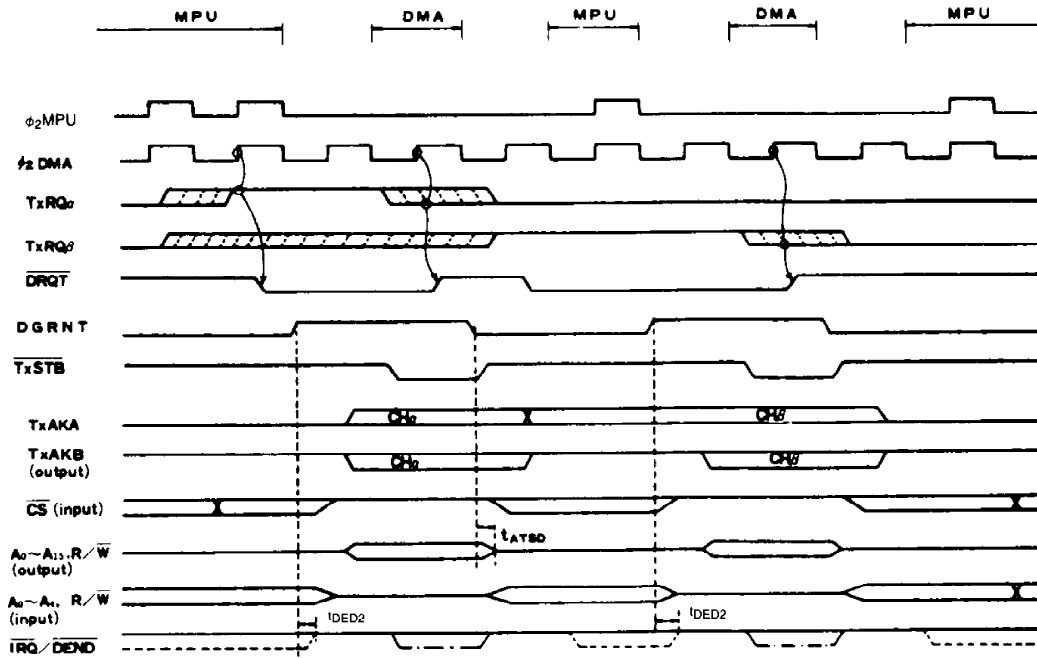
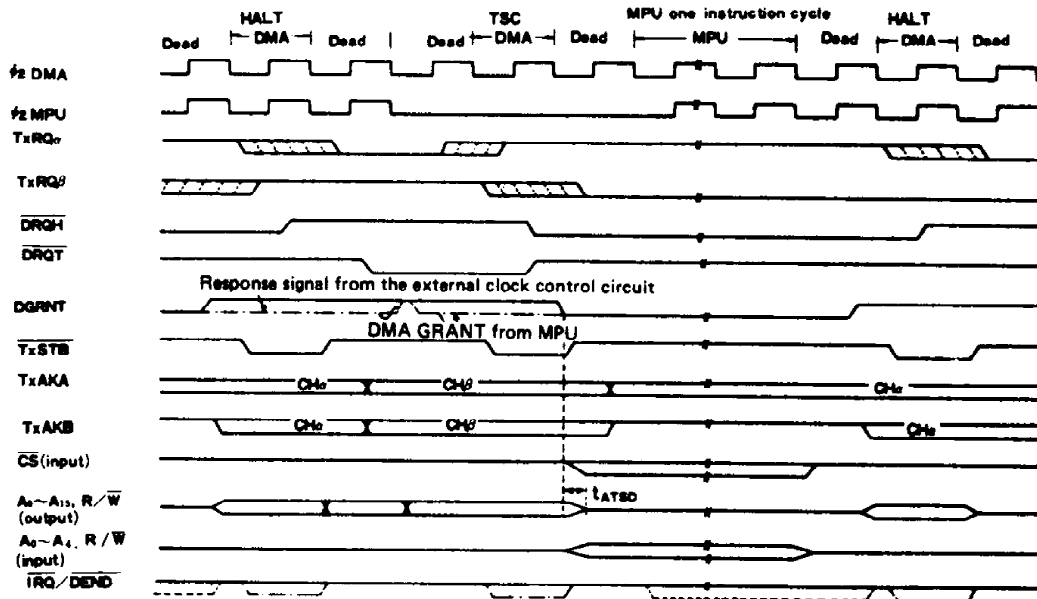
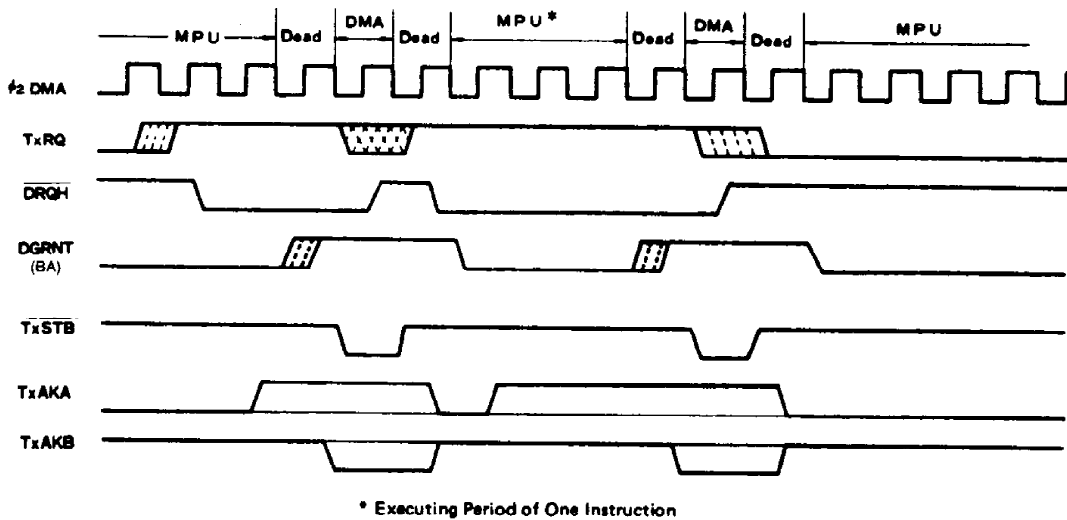

Figure 24 Channel Change (TSC Mode \rightarrow TSC Mode)
Figure 25 Channel Change (HALT Mode → TSC Mode → HALT Mode)
Figure 26 Successive 2-byte Transfer of One Channel (HALT Cycle Steal Mode)
- (2) From TSC mode to TSC mode (Fig. 24)
- (3) From HALT mode to TSC mode
- (4) From TSC mode to HALT mode
- } (Fig. 25)
Both in the case of HALT → TSC mode and in the case of TSC → HALT mode, DMA operation timing is based on the same idea as the above two kinds of mode change. (In detail, see Fig. 25).
The timing in the case where the next byte is transferred without changing the channel is shown in Fig. 26. This is the case of HALT → HALT mode. In this case, the bus control returns to MPU, before the next byte is transferred. In the case of TSC → TSC mode, its timing is almost the same as than in Fig. 24, that is, after 1-byte transfer has completed, MPU executes the Instruction Cycle for one clock and then DMAC executes 1-byte transfer again.